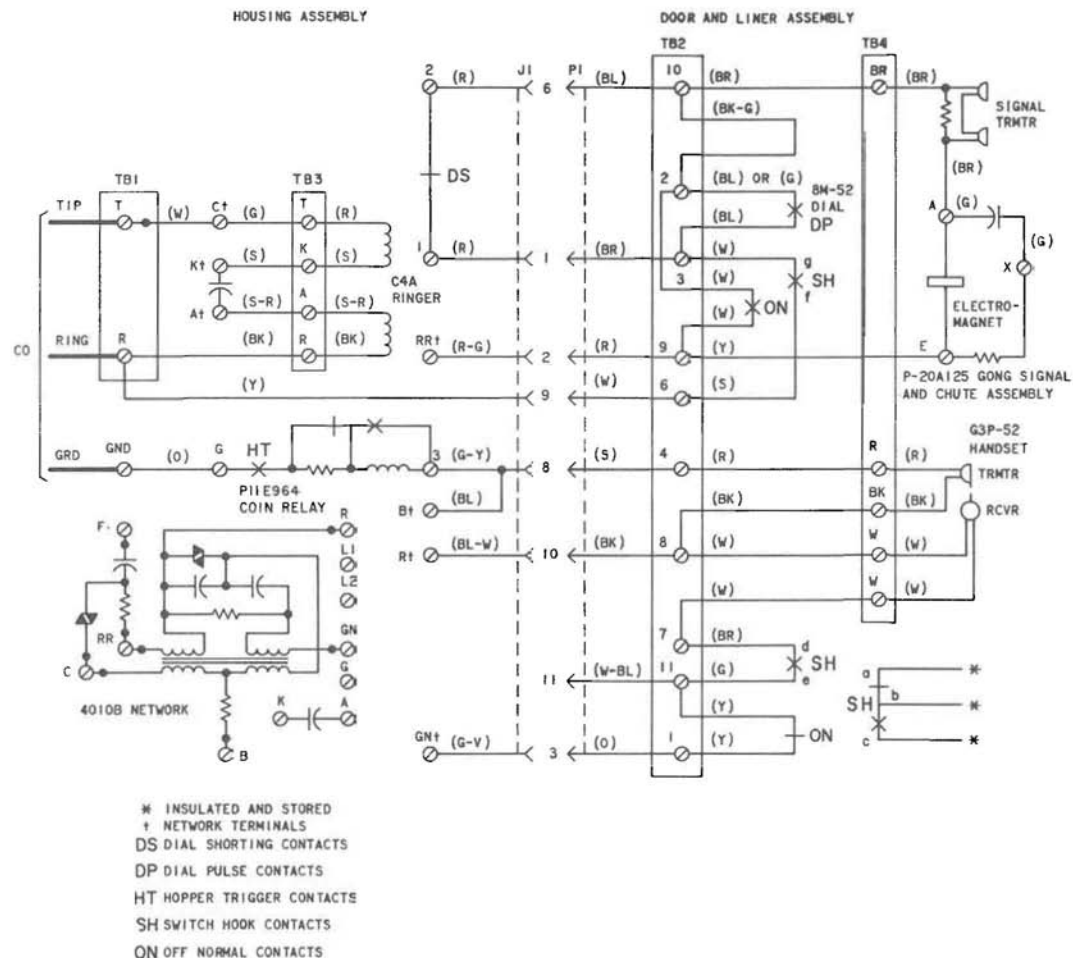

Fig. 10—235G Coin Collector, Connections.
3.01 For connection information refer to Fig. 10 and 11.